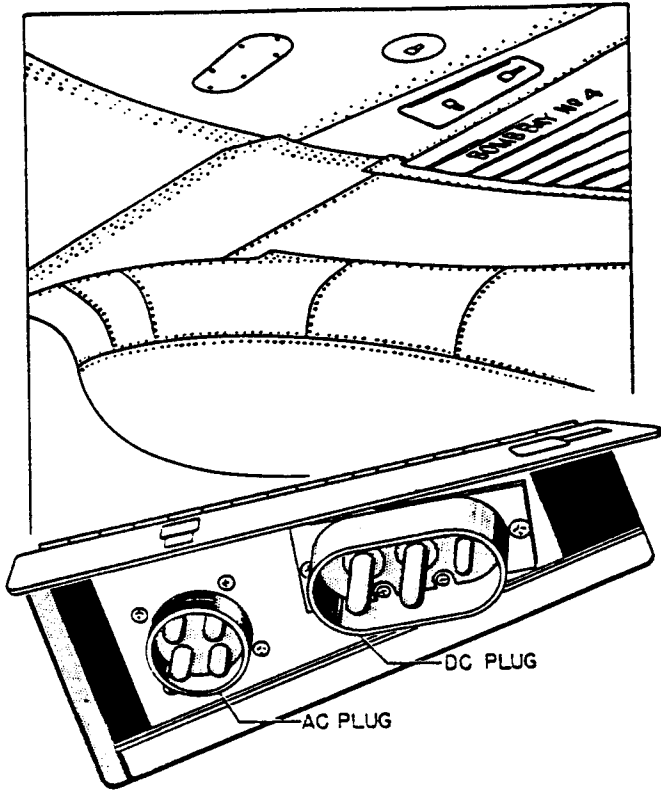

Figure 3. External Power Receptacles
(4) EXTERNAL POWER. (Figure 3.)